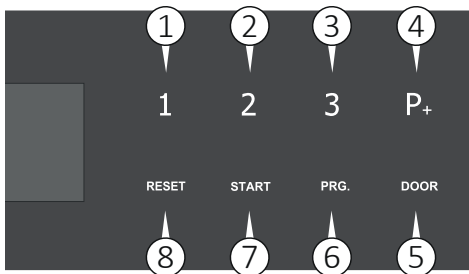

Fig. 13
- 4) With the door open, press and hold key P1 (1 Fig. 13) to refill DOS1 for the detergent; key P2 (2 Fig. 13) to refill DOS2 for the neutralizer; key P3 (3 Fig. 13) to refill DOS3 for the lubricant/rinse aid liquid; key P+ (4 Fig. 13) to refill DOS4 for additive liquid.
- 1) Open the door using the “DOOR” button on the touch screen (4 Fig. 13), if the door is already open, leave it opened;
- 3) Press and hold the button corresponding to the dosing pump you wish to activate to manually load the hydraulic system: key P1 (1 Fig. 13) on the touch screen for pump DOS1; key P2 (2 Fig. 13) on the touch screen for pump DOS2; key P3 (3 Fig. 13) on the touch screen for pump DOS3; key P+ (4 Fig. 13) on the touch screen for pump DOS4.